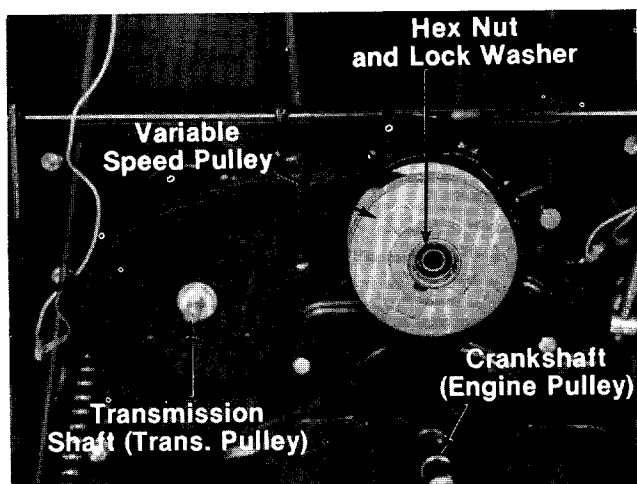

FIGURE 44.
4. Remove the variable speed pulley by removing the hex nut and lock washer shown in figure 44. A 3/4" wrench is required. Slip off variable speed pulley and both drive belts.